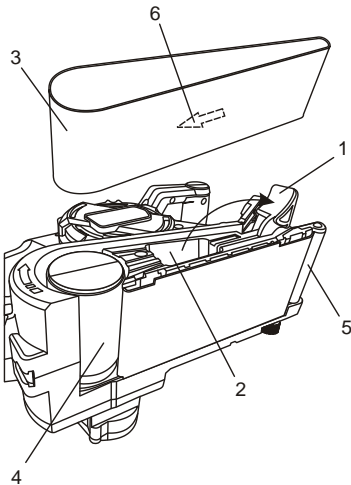

Fig. 5
1. Pull the belt tension release lever (1) away from the side of the sanding belt carrier (2) (Fig. 5).
2. Slide the sanding belt (3) off the rear roller (4) and the front roller (5).